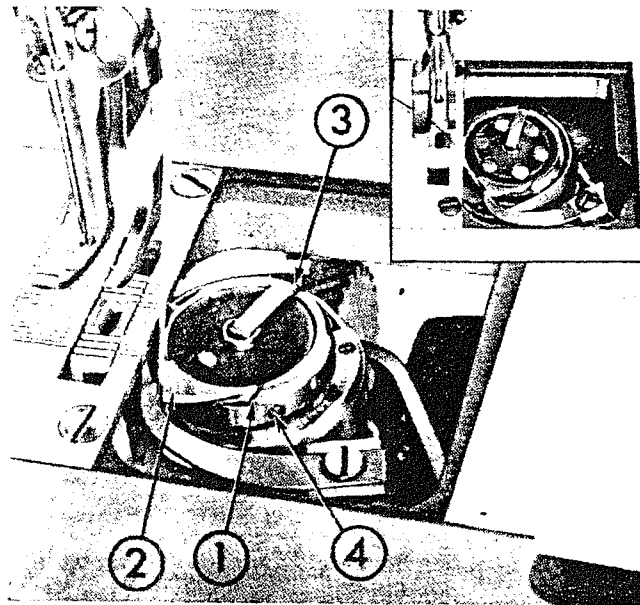

Fig. 9
(Fig. 9)**
The tension of the bobbin thread is adjusted by turning the screw (Fig. 9 ④ ) on the outside of the bobbin case. If this screw is turned to right, the tension gets stronger and if turned to left, it gets weaker.